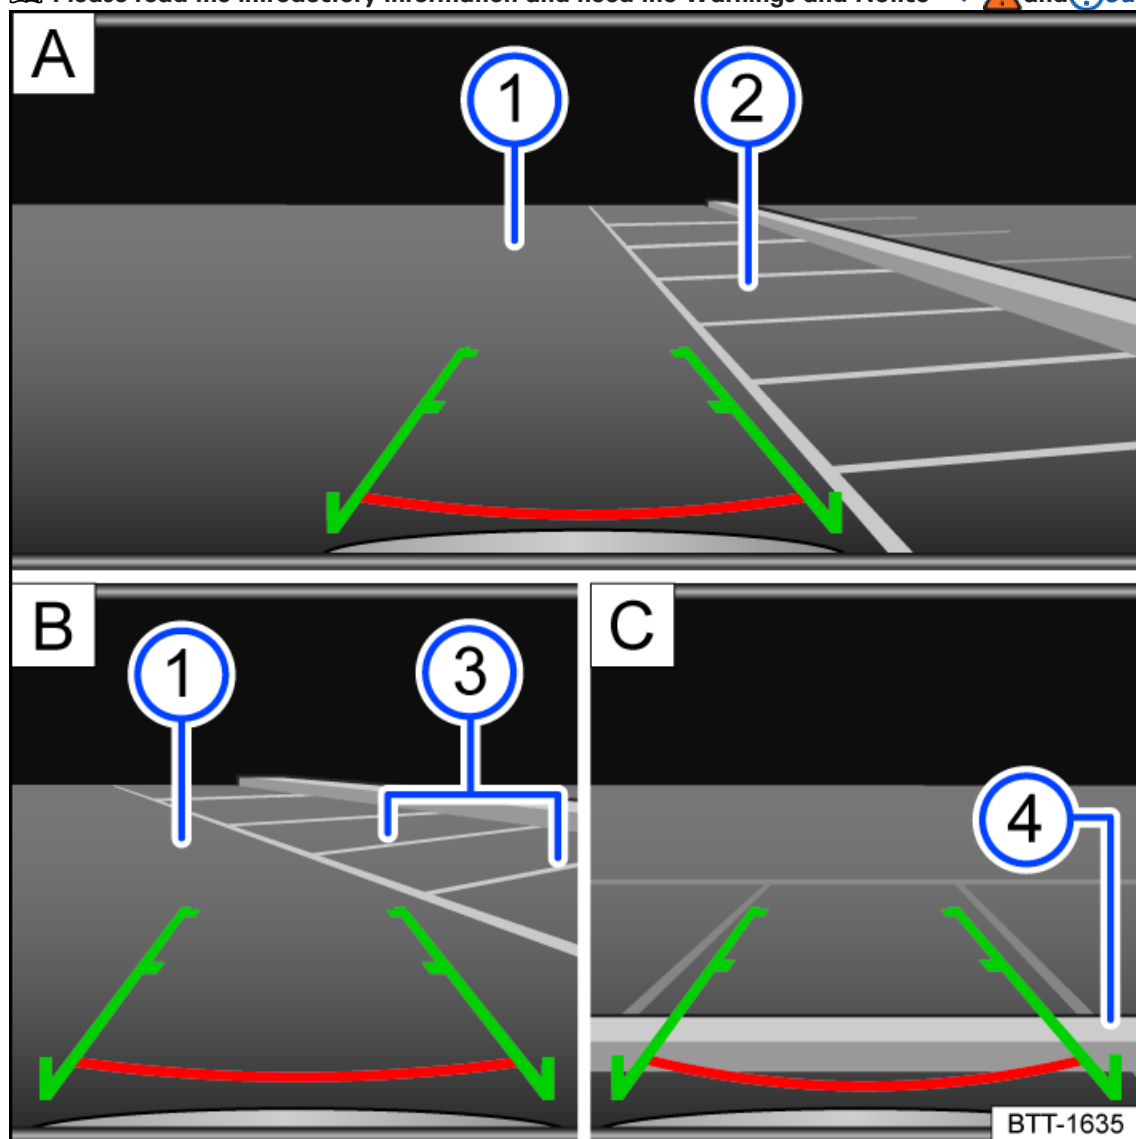

Fig. 123 Infotainment system: Parking with the Rear View Camera system.
1. Position your vehicle in front of the parking space *fig. 123*  .
3. Slowly reverse while steering so that the green side lines line up with the selected parking space. The green lines must line up with the side boundaries of your parking space *fig. 123*  .
4. Stop when the red horizontal line reaches the rear boundary *fig. 123*  .